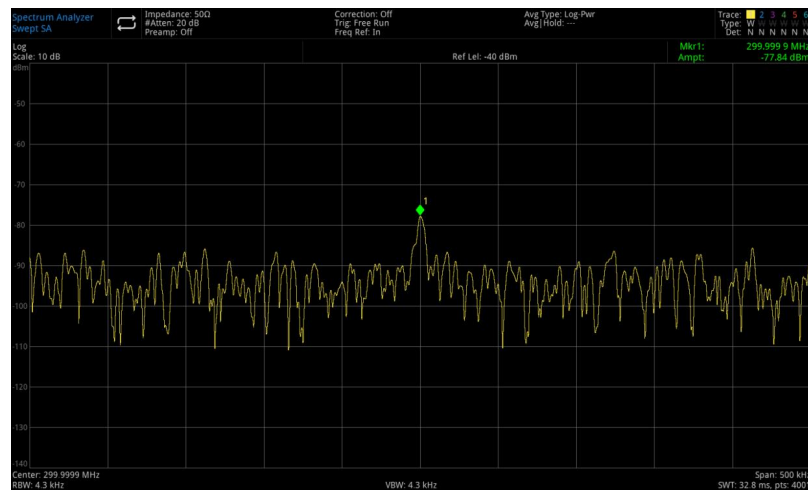

Figure 3-11 Signal Close to Ground Noise
5. Decrease the sweep bandwidth to 500 kHz (as shown in Figure 3-11).